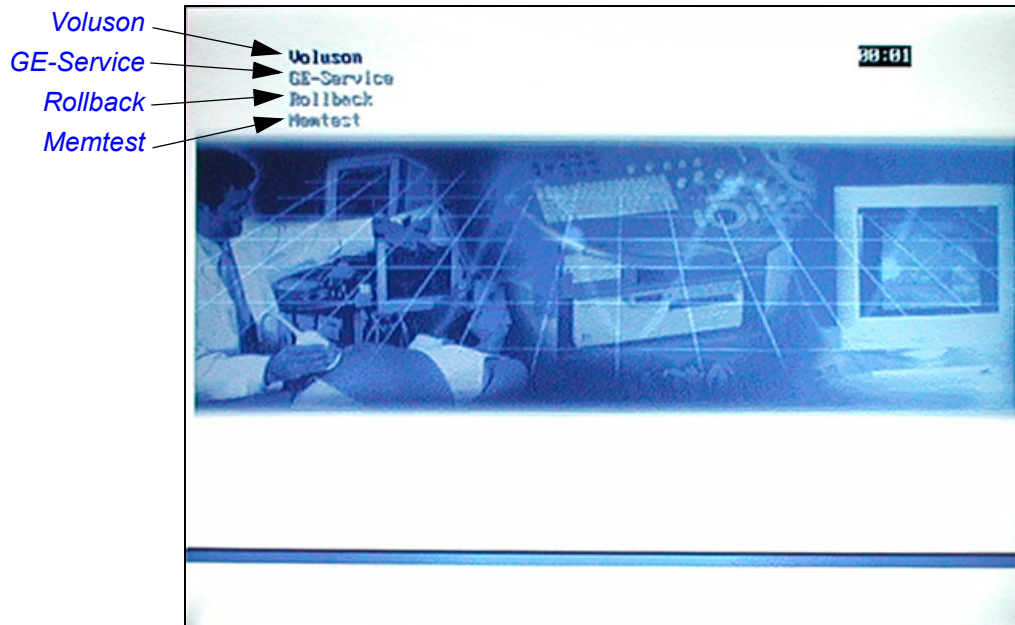

Figure 5-38 Boot screen
- 2.) As soon as the “Boot Screen” appears (see: Figure 5-38 above), press the **PG DN** [Arrow down] key on the keyboard until the **GE Service** item is highlighted, then press **ENTER**.
- 2.) As soon as the "Boot Screen" appears (see: Figure 5-38 on page 5-59), press the PG DN [↓ Arrow down] key on the keyboard until the **Rollback** item is highlighted, then press ENTER.